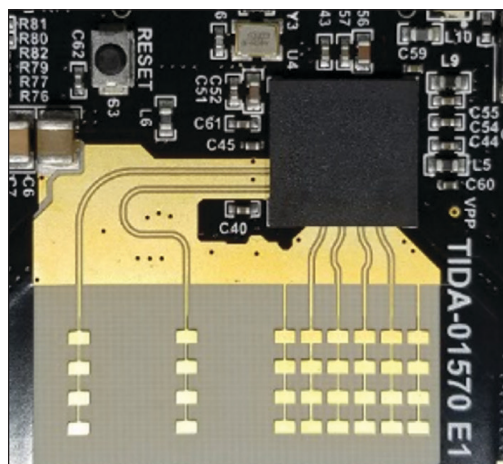

FIGURE 6
and far from each other. Now look at **Figure 6**, which is a reference design proposed by Texas Instruments (TI) for a 77 GHz antenna array for automotive radar applications. Do you see that higher frequencies means smaller elements and shorter distances between elements?